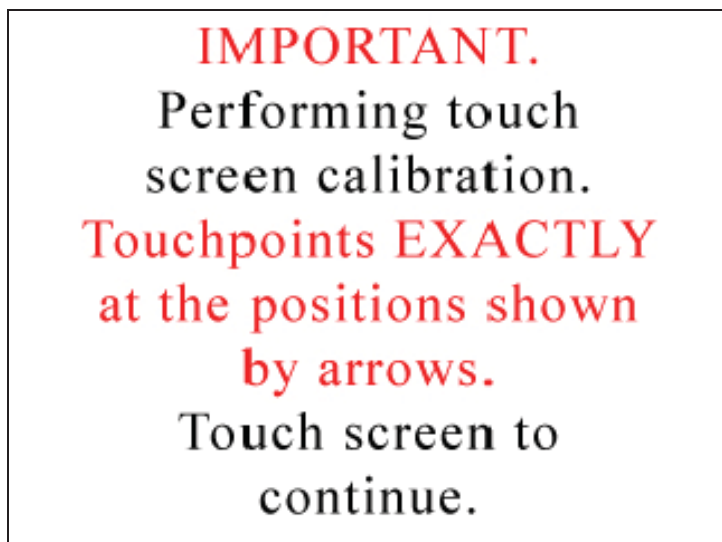

Figure 6-42 Alignment Screen 1
- The screen in Figure 6-42 appears. Touch anywhere on the screen to continue calibration.